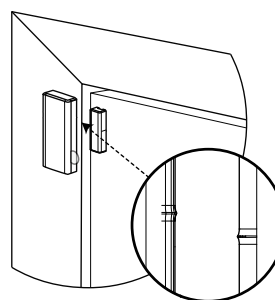
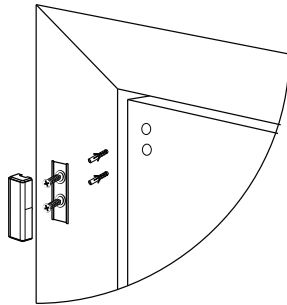

Figure 3:
Figure 6: Magnet screw installation
2. Place the device on the frame of a window or door and place the magnet on the moving surface of the door or window itself, directed according to the location marks. See Figure 3.
3. Screw the magnet base on to the door, aligning the magnet and device according to the location marks. See Figure 6 and Figure 3.